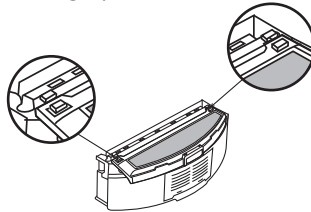

Fig. 1
3. The velcro mop base is clicked onto the right & left hinges on the bottom of the dust filter bracket (refer Fig.1).